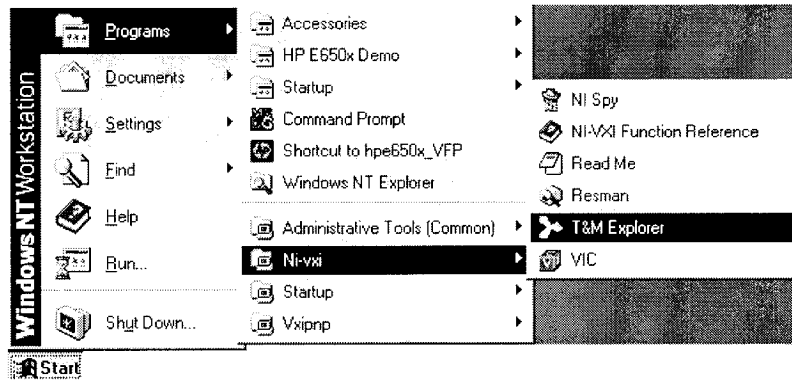
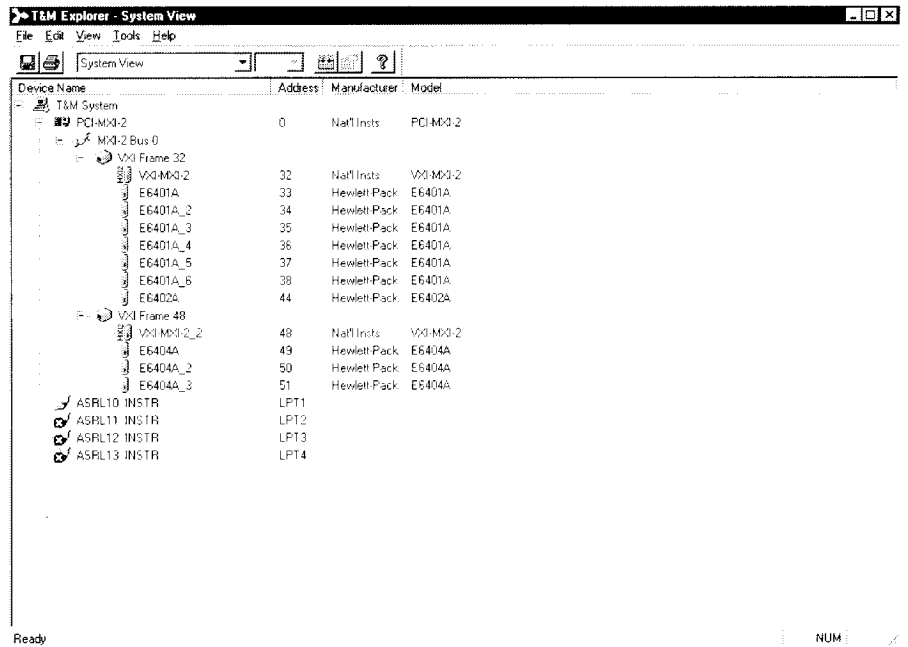

Figure 2-5 Starting the T&M Explorer
Figure 2-6 T&M Explorer
4. Click the **T&M Explorer** item. Refer to Figure 2-5. The dialog box shown in Figure 2-6 appears.